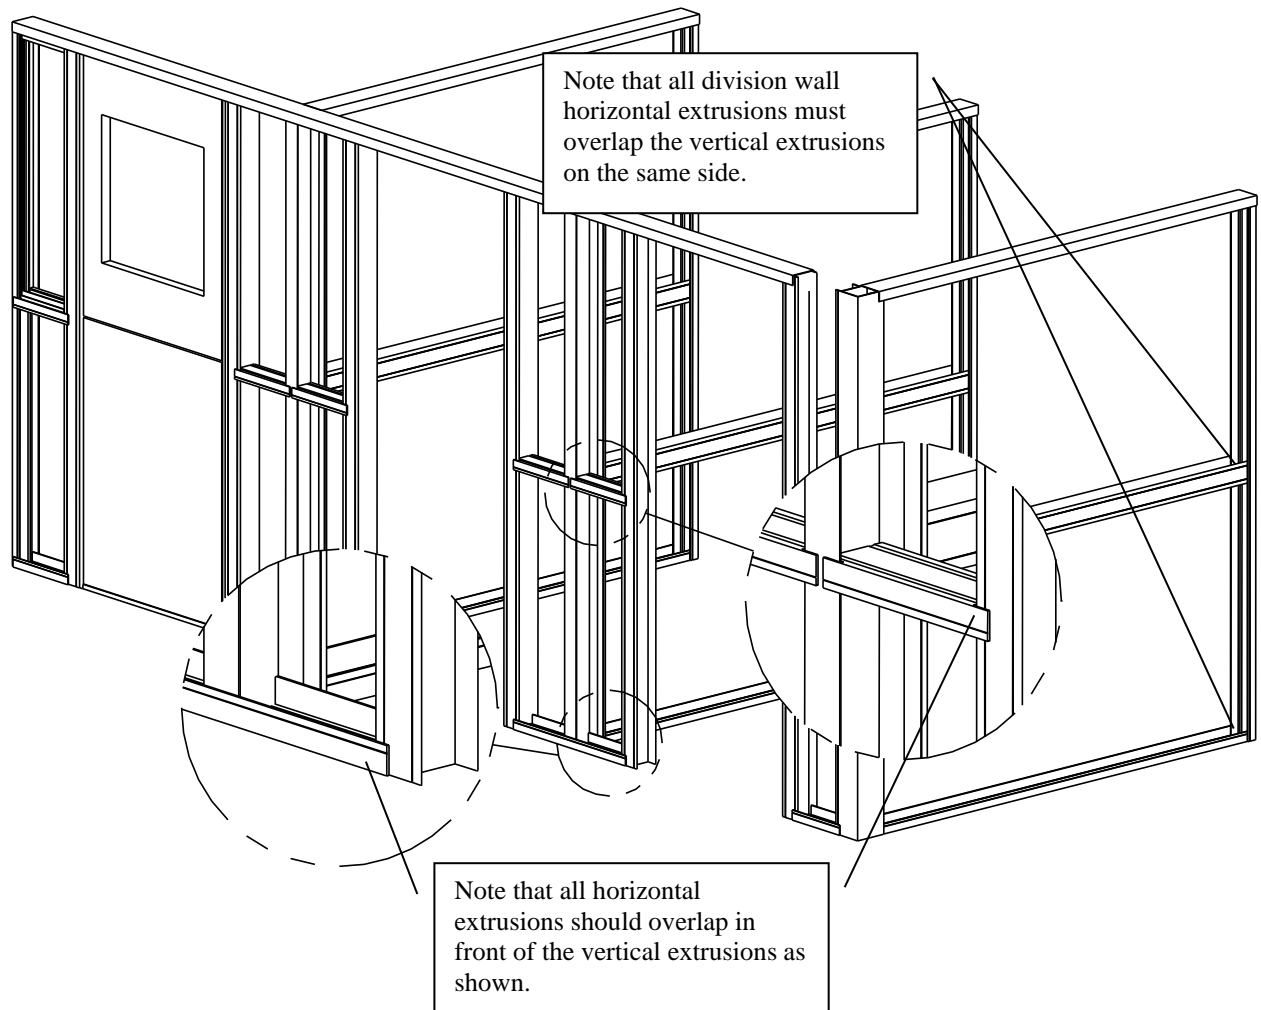
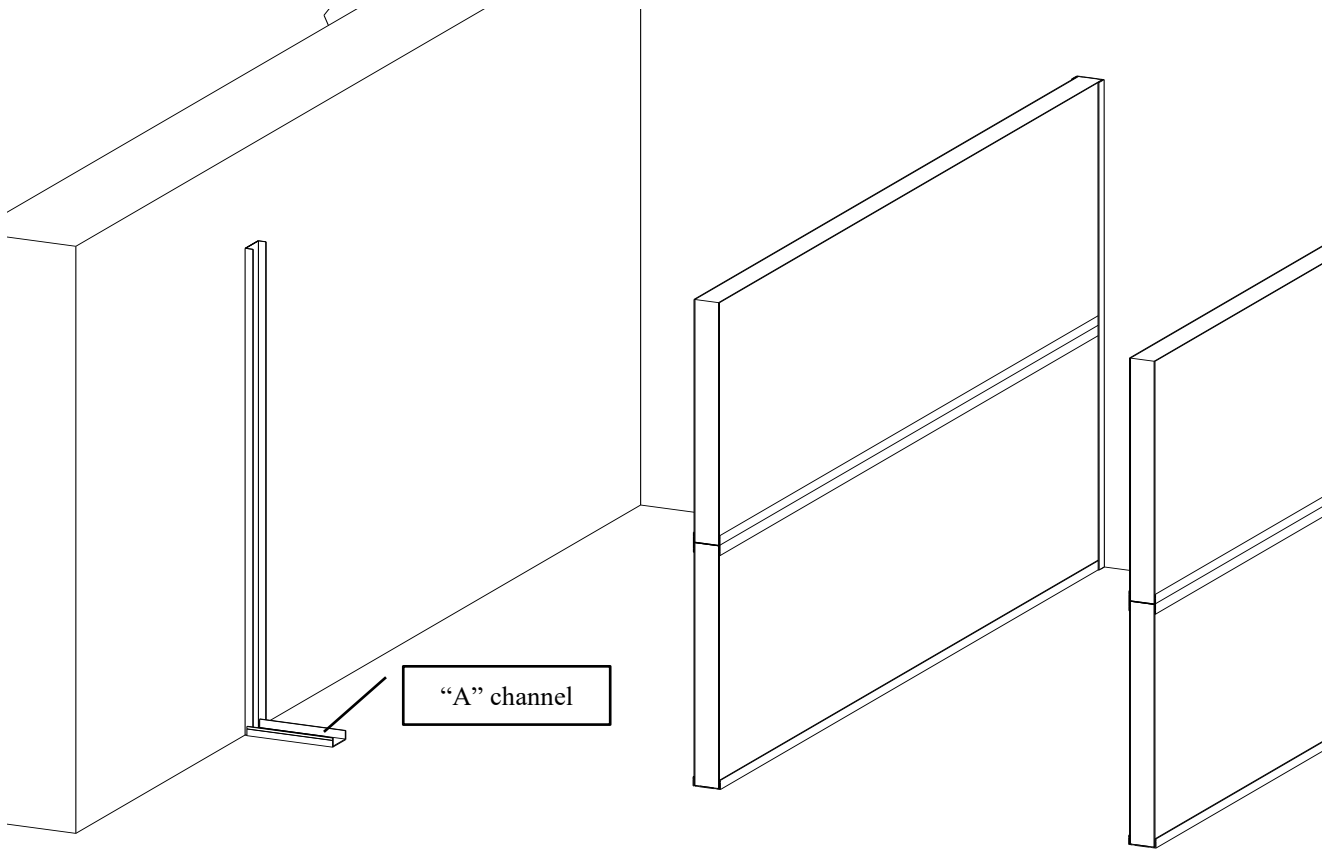

Figure 9
Figure 20
2. The extrusions must overlap to fit together properly, care must be taken to keep overlaps the same at the bottom level as they are at the middle level. It will make a difference as to how your runs go together if you do not align the extrusions properly and in some cases they may not go together at all. See figure 9.
4. Beginning at an end of the system place the first “A” channel in place. This channel will overlap to the front as shown previously in figure 9. See figure 20.